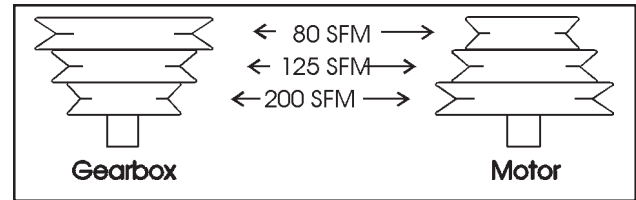

Figure 6: Blade speeds and belt positions
3. With the arm in its fully lowered position, remove the pulley cover lock screw and open the pulley cover. Refer to *Figure 6* for speeds and belt positions.